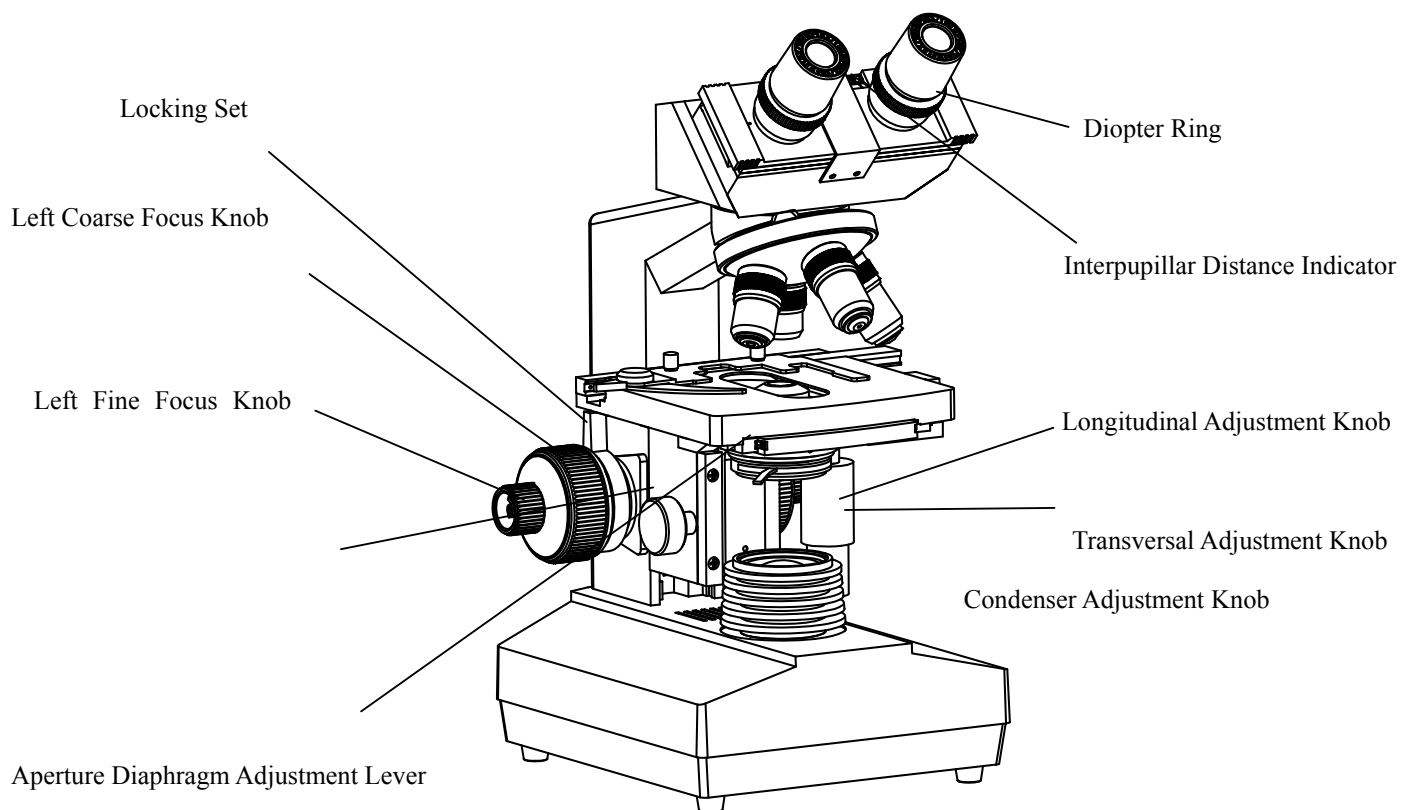
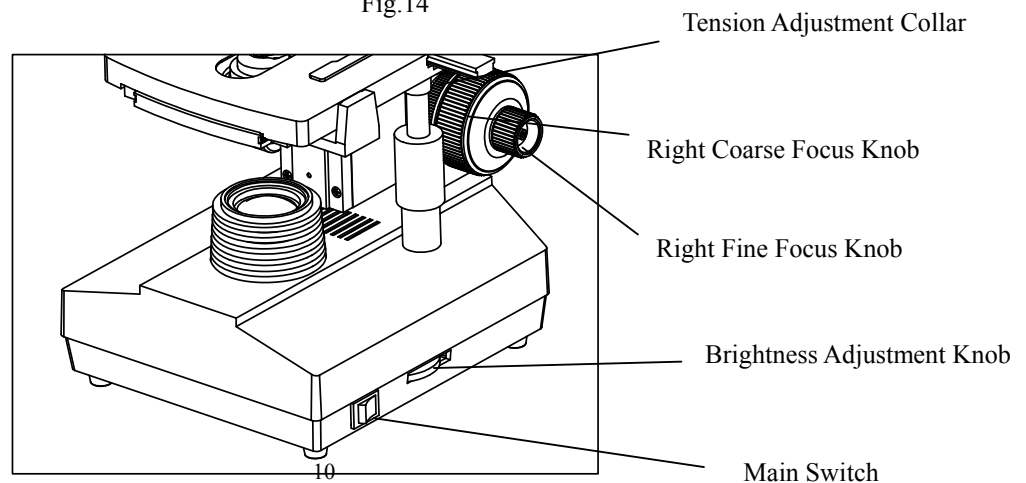

Fig.14
Fig.15
3.1 Adjustment Sets (Fig.14, Fig.15)
3. When the specimen is focused, tighten the locking set (in Fig.14) to give a height limit to the stage .In this way, the stage only can lower, avoiding false operation and damage to the specimen.